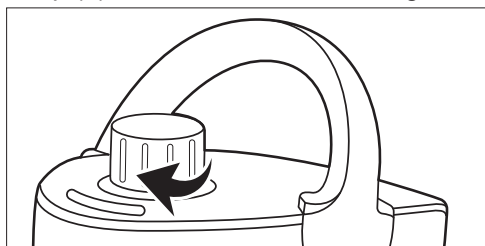

Fig. 4
4. Refit the water tank cap (3) and turn it clockwise to tighten it in place (Fig. 4).